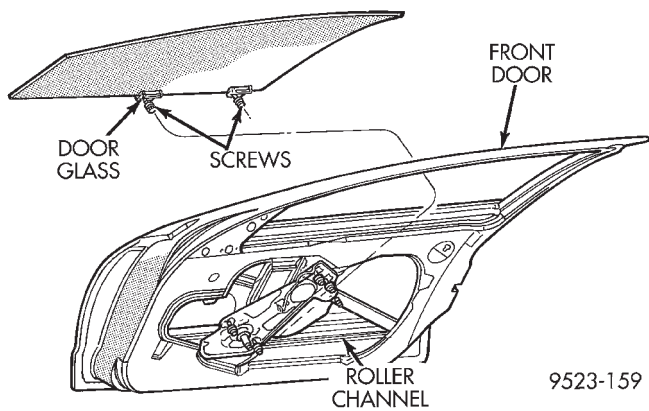

Fig. 38 Front Door Glass
- (1) Remove door trim panel and inner belt weatherstrip.
- (2) Connect power window switch or install crank and lower window to 50 mm (2 in.) from bottom of travel.
- (3) Loosen screws holding regulator roller channel to glass.
- (4) Slide roller channel rearward to allow screw heads to pass through key hole slots in channel.
- (5) Separate glass from roller channel.
- (6) Raise glass upward and out of the opening at top of door (Fig. 38).